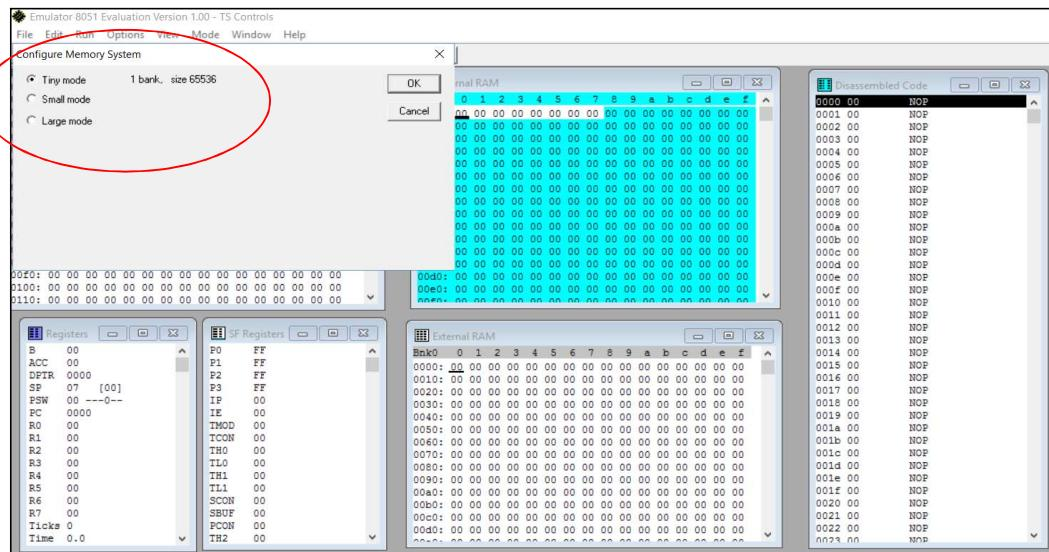

Figure 3.11: Selecting 'tiny mode'
- f. After pressing configure memory system in MIDE-51, following window will open as shown in Figure 3.11. Select tiny mode and then press OK to synchronize DB with external RAM.